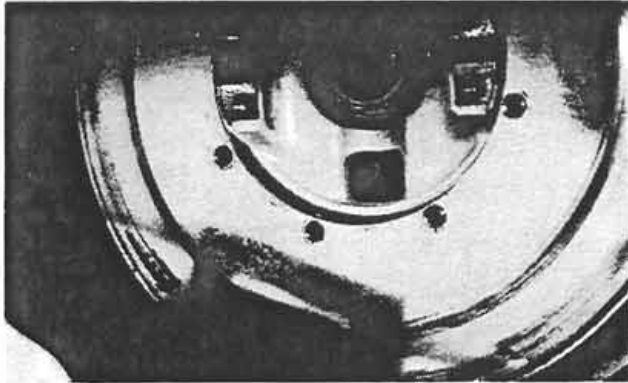

Figure 8:
4. Remove the capscrews that retain the disc to the transmission output yoke. Pull the bottom of the disc rearward then lower it enough to clear the park brake caliper (Fig. 8).